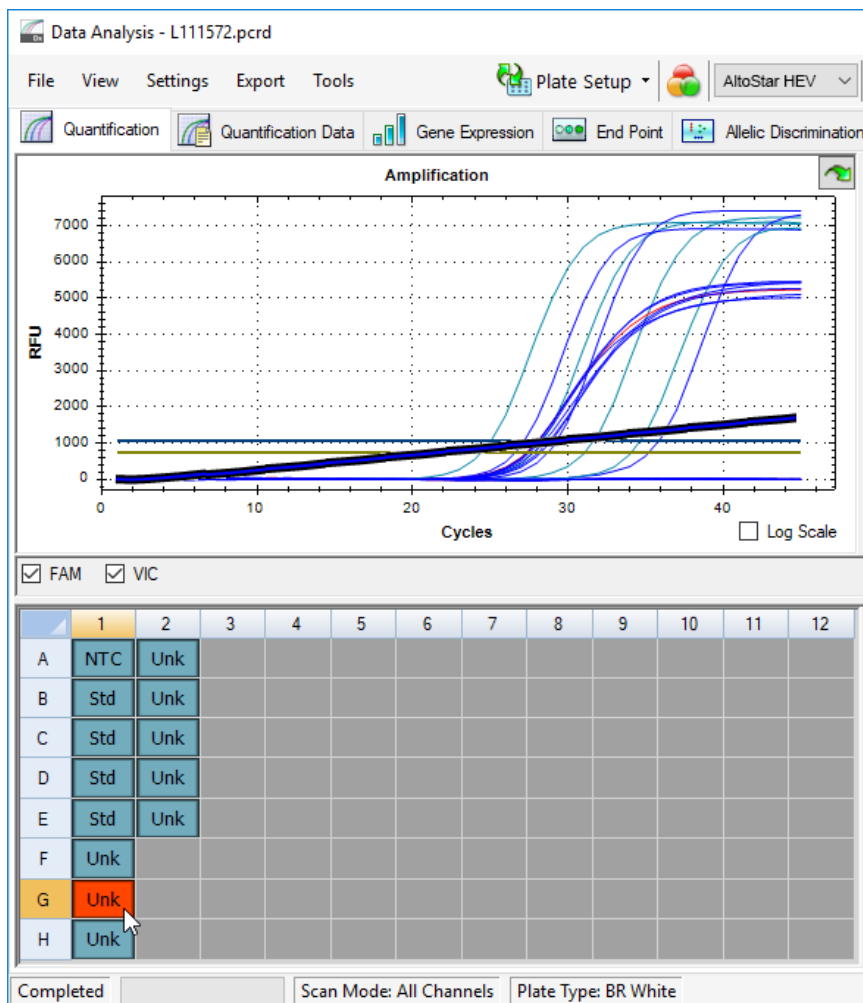

Figure 6: Data Analysis window: irregular PCR signal
- Identify wells with irregular PCR signals (linear signal increase, signal spikes, etc.) in any of the FAM™ (HEV target) and the VIC™ (IC) detection channels (see figure 6).